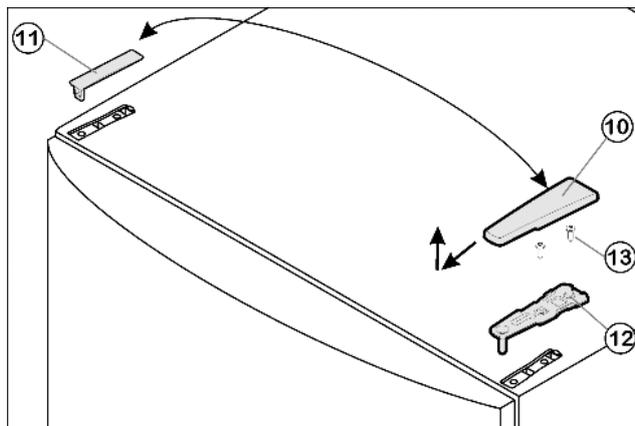

Fig. 4
- ▶ Pull off the cover Fig. 4 (10) forwards and upwards.
- ▶ Lift off the cover Fig. 4 (11).
- ▶ Unscrew the upper turn hinge Fig. 4 (12) (2x Torx® 25) Fig. 4 (13) and lift it off.
- ▶ Insert the upper turn hinge Fig. 4 (12) in the door on the new hinge side.
- ▶ Screw the upper turn hinge Fig. 4 (12) **firmly** into place (with 4 Nm)(2x Torx® 25) Fig. 4 (13). Possibly make preliminary holes with a bradawl or use a cordless screwdriver.
- ▶ Snap the cover Fig. 4 (10) and cover Fig. 4 (11) into place at the opposite side.